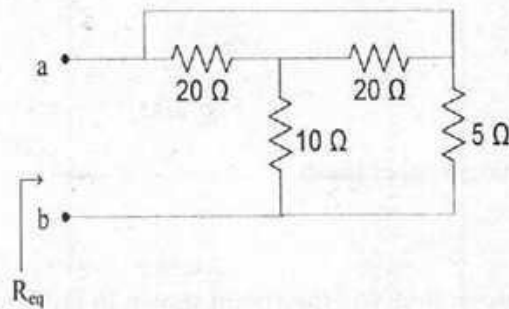

Fig.5(b)
- (b) Find the equivalent resistance between a-b terminal of the circuit shown in Fig 5(b). [13]